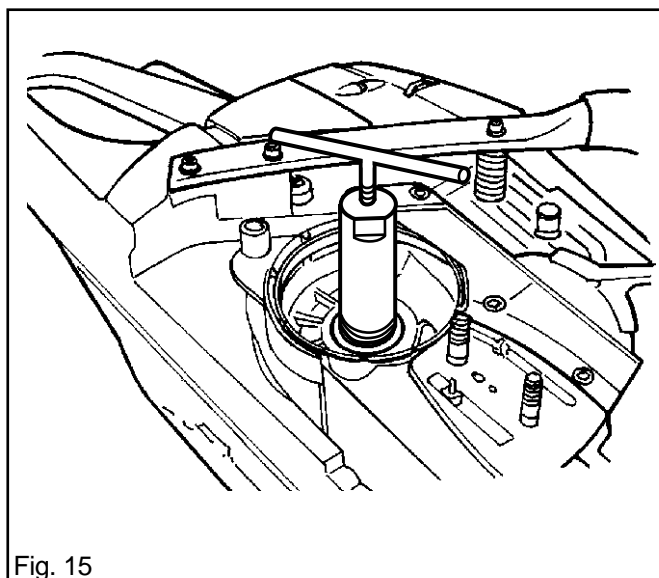

Fig. 15
2. Screw the appropriate removal tool into the seal and remove it. For correct removal tool, see item 12 or 13 on pages 6 and 7. See also fig. 15.